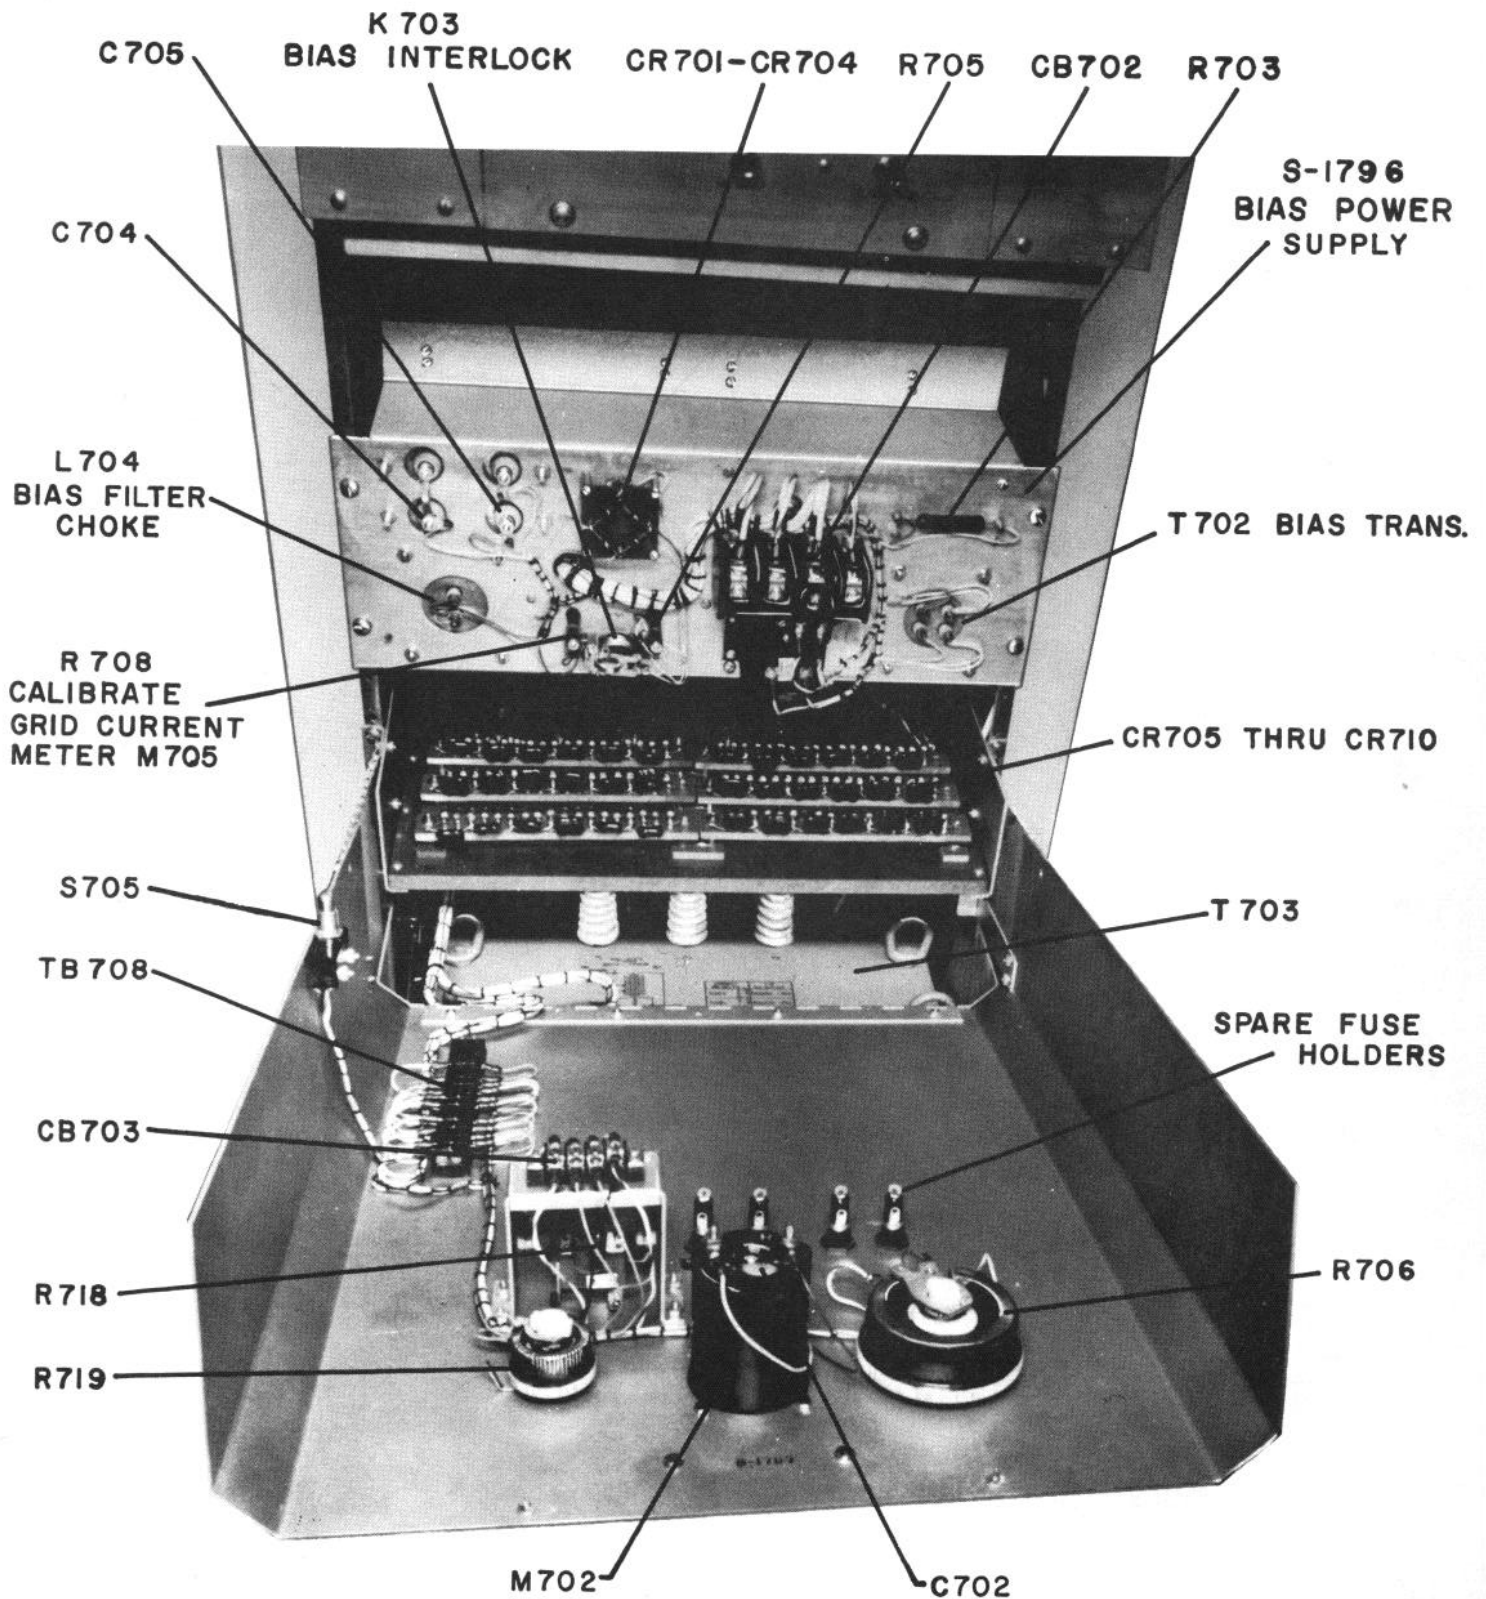

FIG. 5-3 TYPE 938 FM. 5KW AMPLIFIER, ACCESSORY PANEL S-1797 LOWERED
- 4-17. The high voltage power supply, see Fig. 5-3 and 5-8, furnishes 5300 volts at up to 2 amperes. The power supply utilizes 108 silicon diodes mounted on six phenolic strips with eighteen per strip. The strips are mounted in place by means of banana plugs and jacks, to permit rapid replacement of a rectifier leg. These diodes and transformer T703 are connected in a three phase full wave delta - delta configuration with a choke input type filter consisting of L705 and C711.